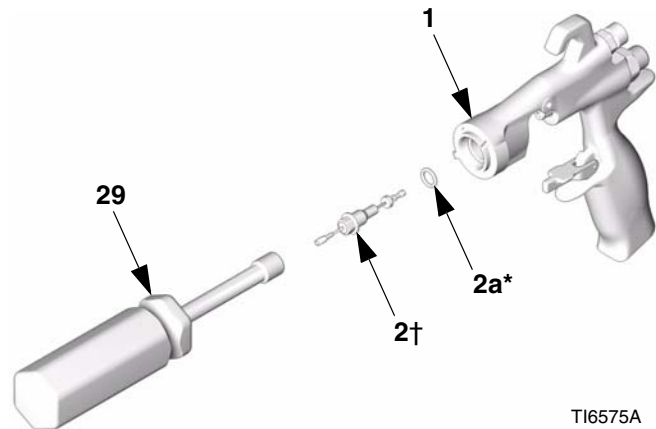
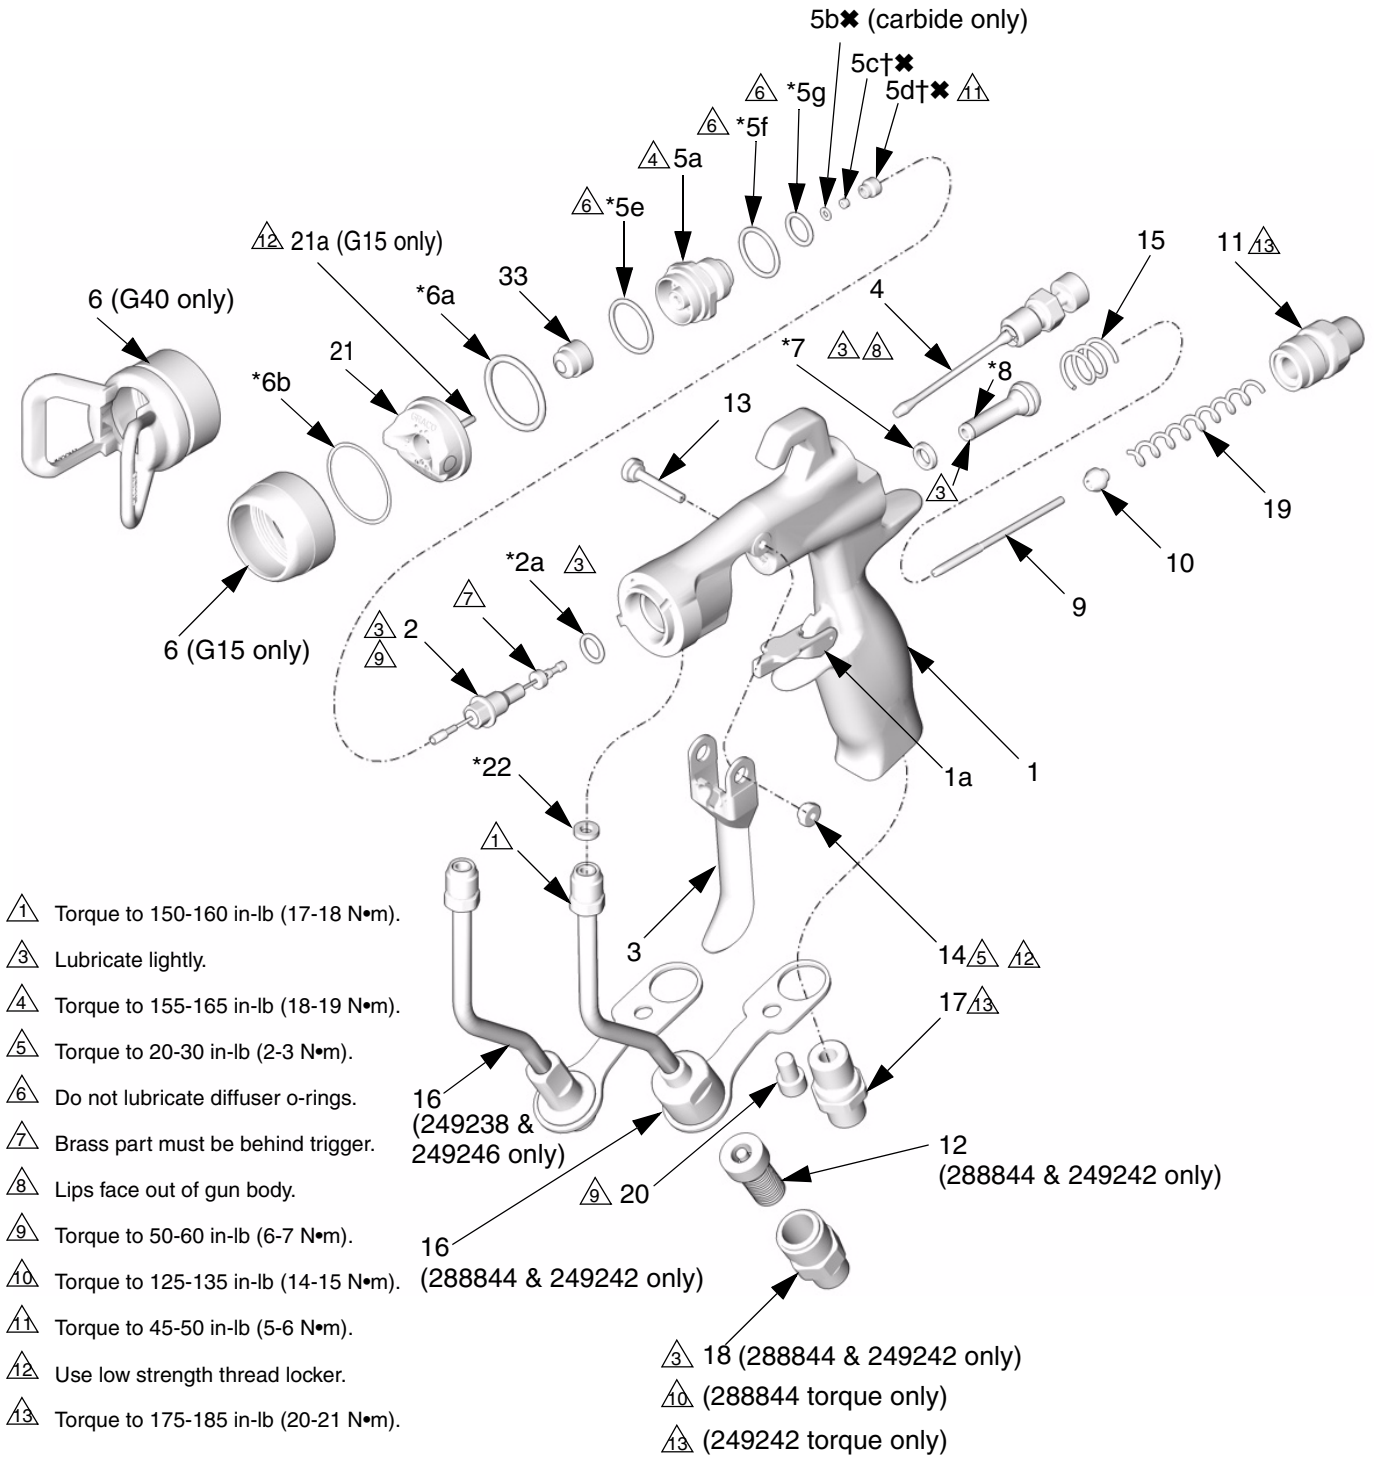

FIG. 43
FIG. 44
1. Install the tube gasket (22\*) in the gun. Handtighten the fluid tube connector (C) into the gun's fluid inlet. Handtighten the air inlet fitting (17) and screw (20). Torque the fluid tube connector to 150-160 in-lb (17-18 N•m). Torque the air inlet fitting to 175-185 in-lb (20-21 N•m). Torque the fluid tube bracket screw to 50-60 in-lb (6-7 N•m). See FIG. 44.
2. Install the inline fluid filter (12) into the base of the fluid tube. Screw the fluid inlet fitting (18) into the base of the tube. Torque to 175-185 in-lb (20-21 N•m). See FIG. 44.
4. Lubricate the front end of the air valve assembly (8\*). Gently slide the air valve assembly into the back of the gun, passing through the u-cup (7\*), as far as it will go. Be careful not to damage the u-cup. See FIG. 44.
5. Slide the seat (10) onto the shaft (9). Be sure that the tapered end of the seat is toward the thicker end of the shaft. Carefully insert the shaft (9) and seat (10) in the air valve (8\*).
6. Install the two springs (15 and 19). Screw the spring cap (11) into the back of the gun body. Torque to 175-185 in-lb (20-21 N•m).
7. Lightly lubricate the needle assembly o-rings and shaft where the packing slides. Be sure that the o-ring (2a\*) is in place in the gun body (1).
8. Insert the fluid needle assembly (2) into the front of the gun. Use the nut driver (29) to screw the fluid needle assembly into the gun body (1) and torque to 50-60 in-lb (6-7 N•m). See FIG. 43.
9. Install the trigger (3), pivot pin (13), and nut (14). Use low strength thread locker and be sure that the brass piece of the fluid needle assembly (2) is behind the trigger. See FIG. 44. Lubricate both sides of the pivot pin where the trigger contacts the pin and lubricate the boss on both sides of the gun where the trigger contacts the gun body. Torque the nut to 20-30 in-lb (2-3 N•m).
10. Trigger the gun to pull the needle back while you screw the diffuser assembly (5) into the gun body (1) using the gun tool (30). Torque to 155-165 in-lb (18-19 N•m). When properly tightened, the flange will bottom out on the gun.
11. Attach the retaining ring (6), air cap (21), and spray tip (33)✘.